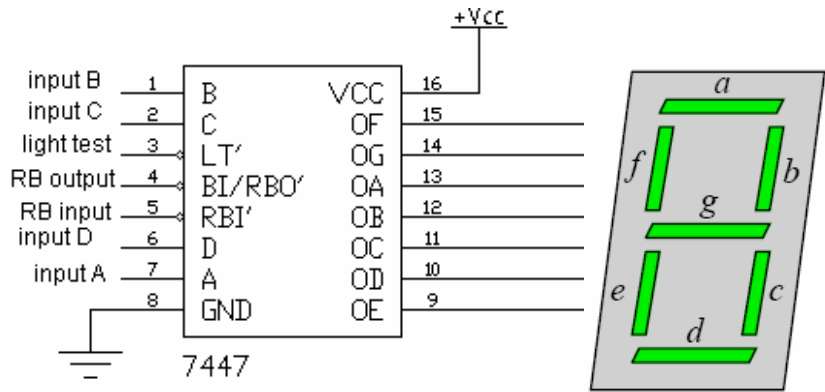

Figure 1: The BCD-to-7-Segment Decoder and the 7-Segment Display Unit
The 7-segment display is simple LED-based display that is usually used in electronic devices, such as digital alarm clocks, to display decimal numbers and some letters or symbols. It consists of seven LED's packaged together as shown in Figure 1 below. The ON/OFF combinations of the LED's display the appropriate symbol. For example, to display the number "2", the LED's labeled a, b, d, e, and g are turned ON while the LED's labeled c and f are turned OFF.
The BCD-to-7-Segment decoder (IC 7447) is a combinational circuit that is used to drive the 7-Segment display as shown in Figure 1. It takes a 4-bit input code (labeled DCBA) representing the BCD (Binary-Coded Decimal) number to be displayed and converts it into a 7-bit output code that is used to drive the 7-segment display. Table 1 below partially lists the corresponding BCD-to-7-Segment conversion table.
2. Construct the circuit shown in Figure 1. Implement the 4-bit BCD code input using 4 switches. Observe the 7-Segment display as you change the input BCD code according to Table 1 and register any discrepancies. Observe and register the output displayed patterns for the last 6 codes of Table 1.
Derive the truth table of 3-input priority encoder and draw its corresponding logic diagram using NAND gates. Show how the circuit shown in Figure 1 can be used to display the output of the 3-input priority encoder on the 7-Segment display.